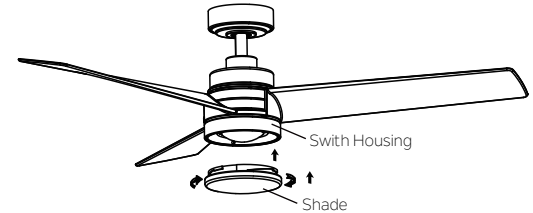

Fig. 21
Step 4. Secure the shade to switch Housing by twisting in a clockwise direction. Do not over-tighten. (Fig. 21)